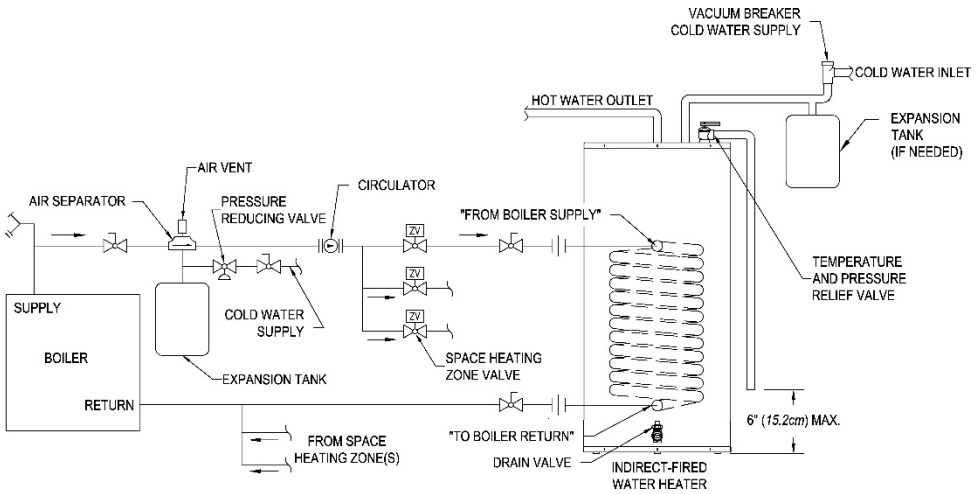

Figure 3 - Water Boiler Piping with Zone Valves
1. For a space heating system that utilizes ZONE VALVES, refer to Figure 3. The indirect-fired water heater connection labeled “FROM BOILER SUPPLY” should be piped to the boiler supply piping. Mount the circulator making sure the flow arrow points toward the water heater. The use of shut-off valves and unions are recommended for future service convenience. The use of an air separator and vent is recommended to eliminate air in the system. Pipe and fittings between the boiler and indirect-fired water heater must be ¾” diameter or larger.